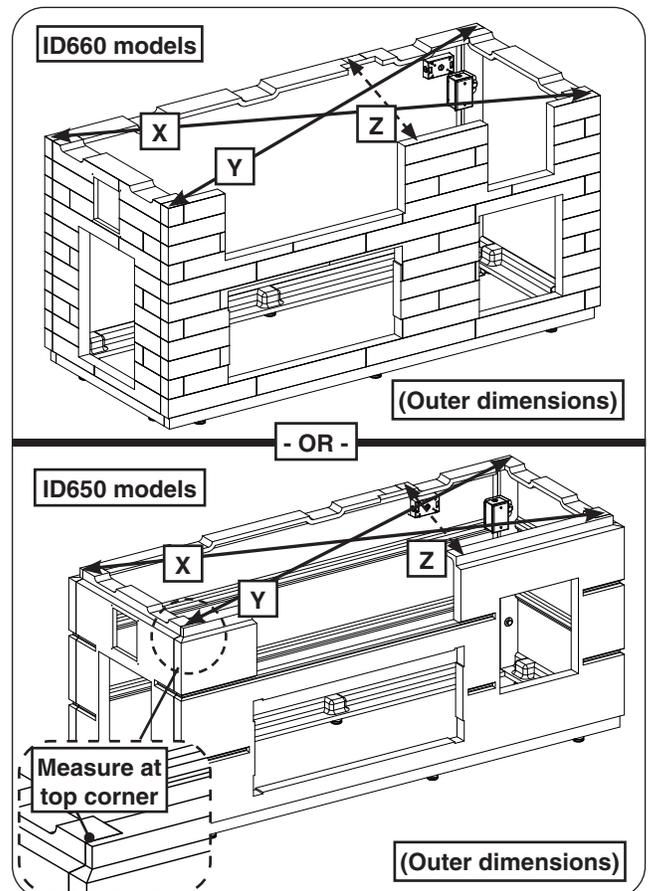

Fig. 8-3 Square unit (then tighten all bolts)
- a. Measure for the X outer dimension, see Fig. 8-3. It should be approximately:
- b. Measure the Y outer dimension, see Fig. 8-3. Carefully adjust the walls as needed to ensure the X & Y dimensions are equal. (The final dimension may slightly vary from that mentioned in step a.)
- c. Measure for the Z outer dimension, see Fig. 8-3. It should be approximately: